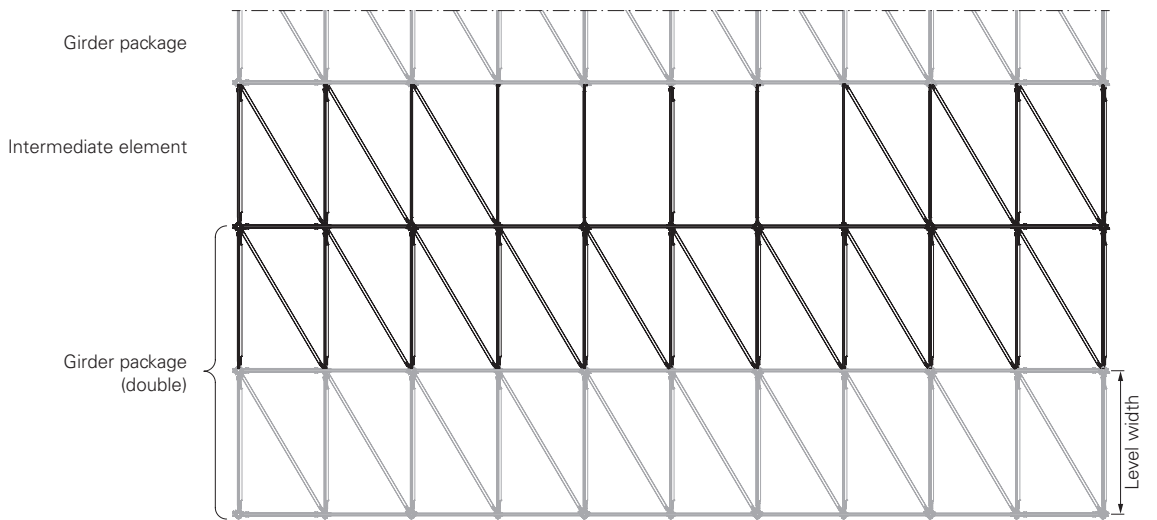

Fig. B2.02b
- With an even number of packages, a double girder package is mounted in the edge area. (Fig. B2.02b)